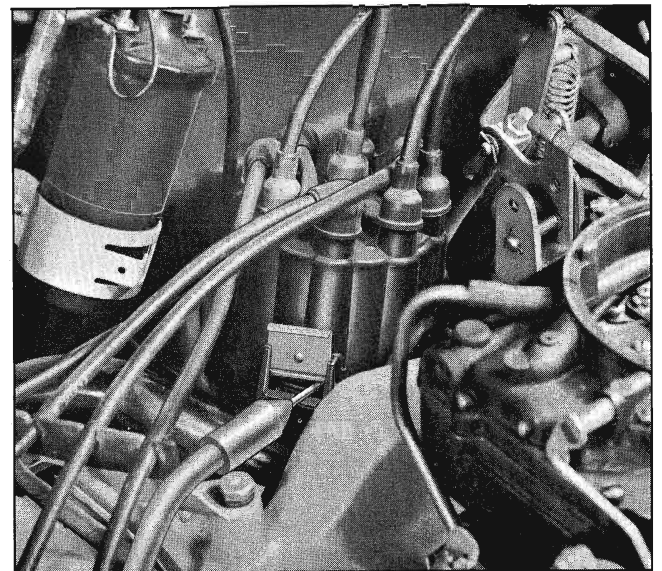

Fig. 11-51 Adjusting Dwell Angle
2. Insert a "Hex" type wrench into the head of the adjusting screw as shown in Fig. 11-51.
2. With the distributor operating turn the adjusting screw (Fig. 11-51) until the proper dwell angle is obtained.